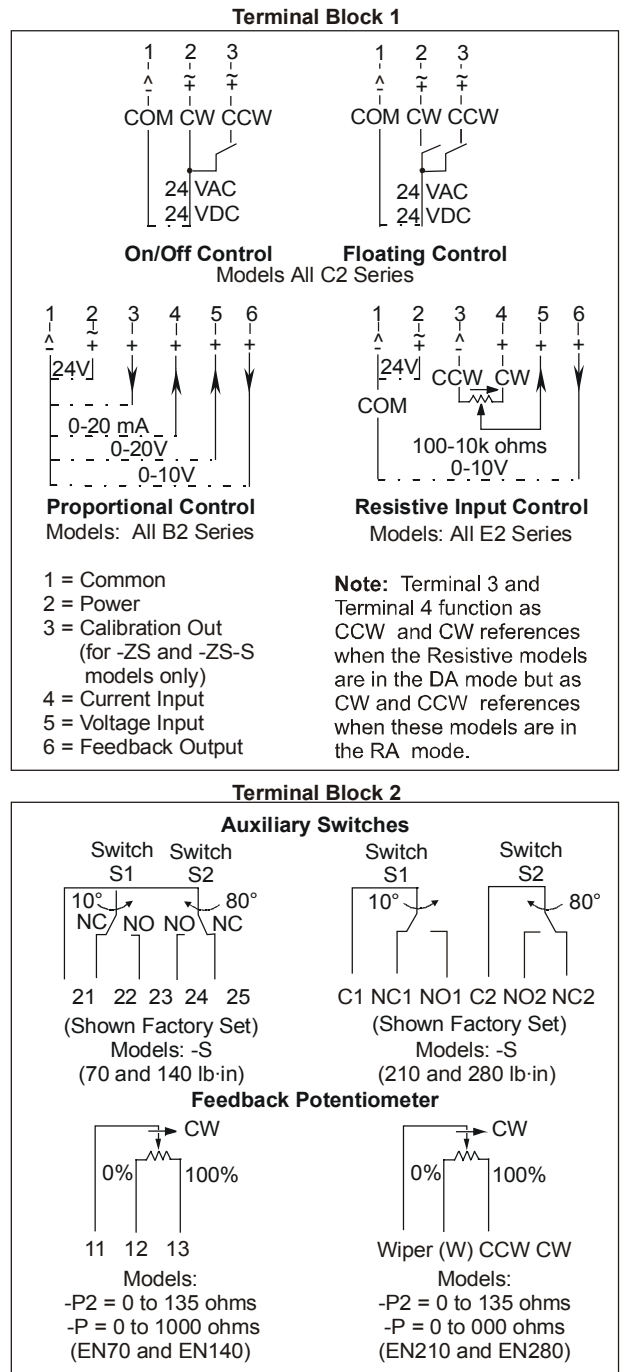

Figure 5: Wiring Diagrams for Enxxx Series Models
Refer to Figure 5 for the applicable ENxxx Series actuator:
4. Insert the cable wires through the plastic plug or conduit fitting, and connect to the terminal block using the applicable wiring diagrams in Figure 5.
To set one of these models for RA operation, reverse the control wiring connections at Terminal 2 and Terminal 3. (See Terminal Block 1 in Figure 5.)
Note: The normally closed contact closes, and the normally open contact opens. (See Auxiliary Switches in Terminal Block 2 of Figure 5.)